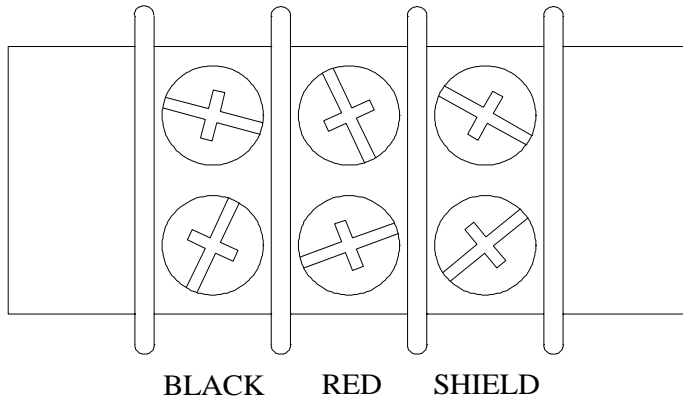

Figure 15 T1 WIRING DIAGRAM
3. Connect the control cable to terminal strip T1 (located to the left of the test jack S10) according to the diagram in figure 15.